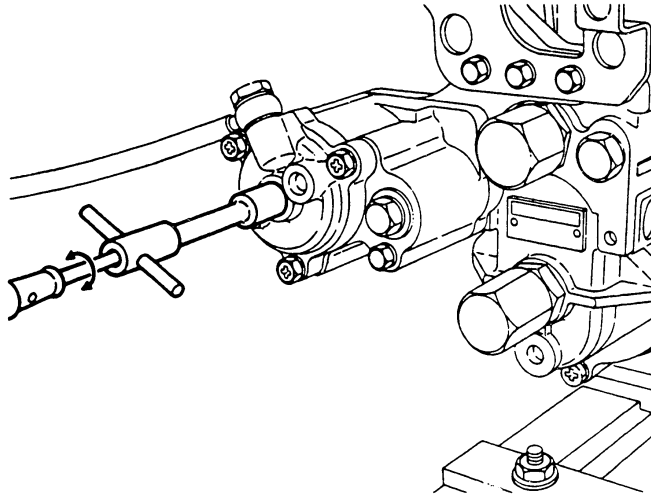

Fig. 168 Setting the boost compensator spring force
- 2) Adjust the screw (62) so that the control rack begins moving from  $R_1$  mm in the fuel increase direction when the boost pressure reaches  $P_1$  mmHg.
Lock the screw with the nut (63). (Figs. 168 and 169)